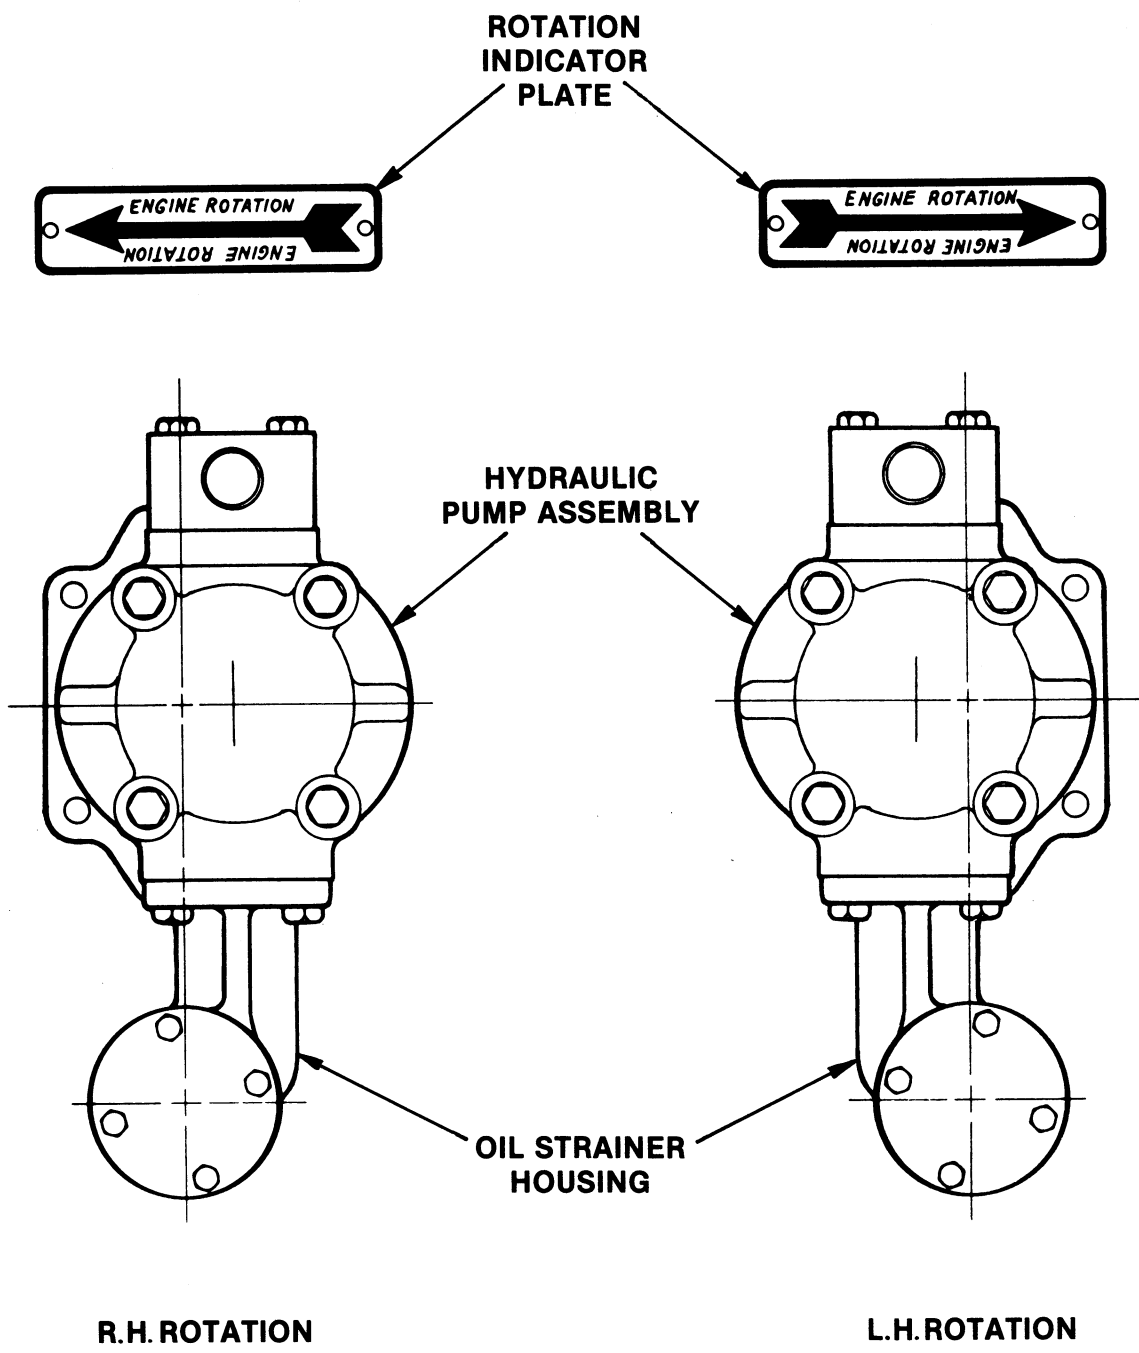

Figure 2-1. Relationship of Rotation Indicator and Pump Suction Strainer for Right and Left-Hand Engine Rotation. Facing Rear View.
2. When shipped from the factory, each unit is designated for use with a particular engine rotation. Figure 2-1 indicates the engine rotation for which a particular unit is designated. Within their rated capacities, these units may be operated continuously in either forward or reverse. The unit can be adapted to either left or right-hand engine rotation. To adapt to opposite engine rotation, a different oil pump and strainer housing are required. Also, the air baffle plate is relocated and the rotation indicator plate changed. For detailed instructions for adapting the unit to an engine with opposite rotation, contact the nearest Twin Disc distributor or the Marine Application Engineering Department, Twin Disc, Incorporated, Racine, Wisconsin U.S.A.